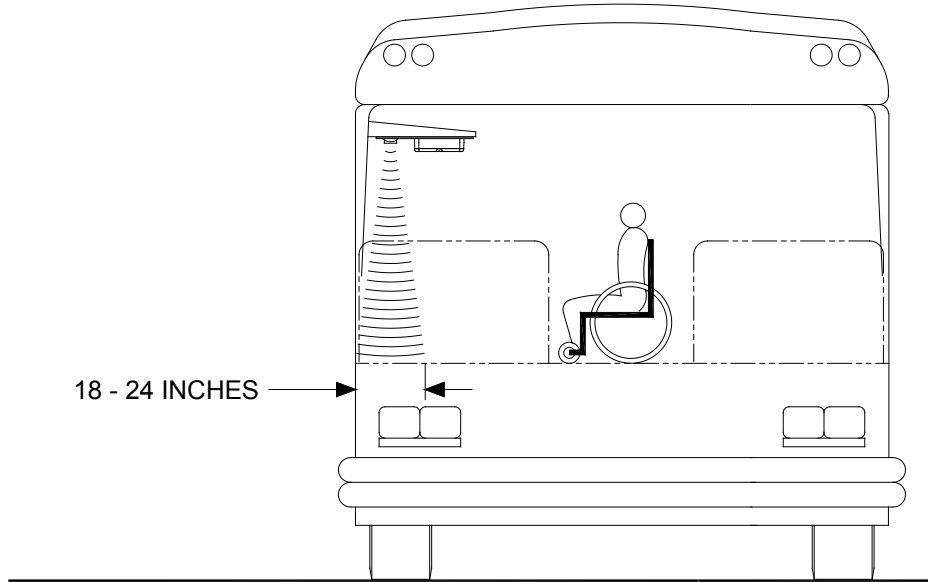

FIGURE 5: TWS AREA
1. Refer to **FIGURE 5**. Place wheelchair with passenger in center aisle of bus, pointed at doorway where Threshold Warning System (TWS) is installed. The TWS should not detect a wheelchair and passenger when they are located this far from doorway.